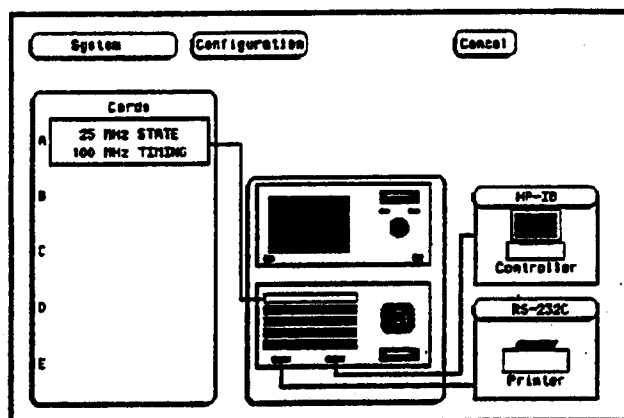

Figure 6-2. Startup Screen
- b. From the startup screen shown in figure 6-2, touch Configuration field, then touch Test.